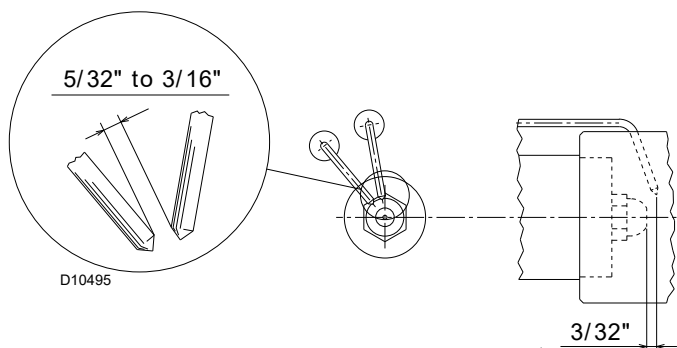

Fig. 23
- The nozzle for low fire operation is the one lying beneath the firing electrodes (Fig. 23).
- Make sure that the electrodes are positioned as shown in Fig. 23.
Make sure that the electrodes are positioned as shown in Fig. 23.